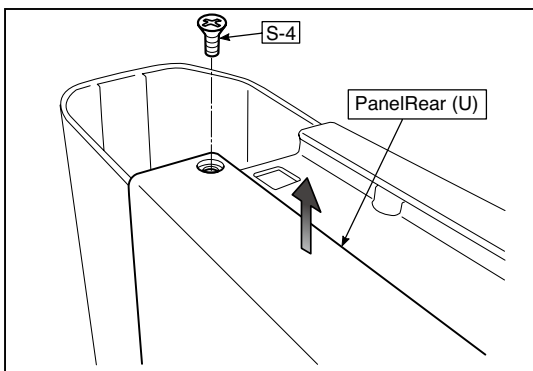

Fig.25
- 1.Remove the "S-4" screws shown in the figure 25 and then remove the Panel Rear (U).